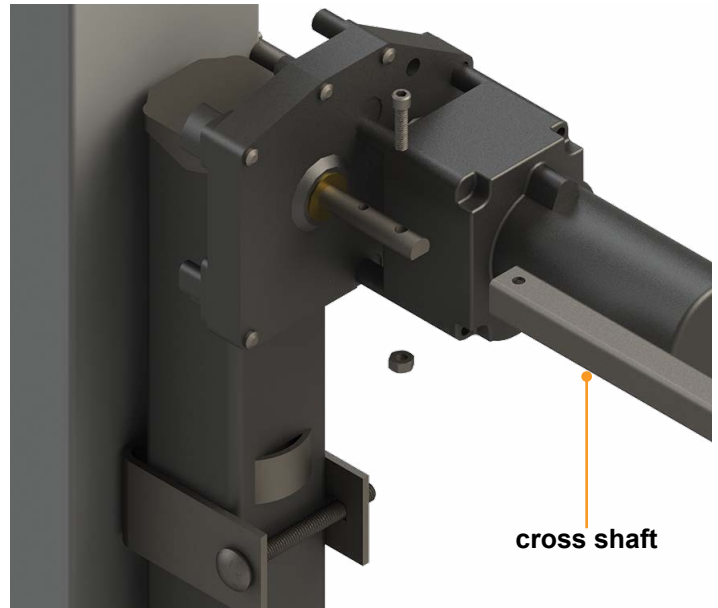

Fig.8
12. Slide the cross shaft onto the follow leg. Extend the shaft to the gear box. Secure cross shaft in place with previously-removed installation hardware (Fig.8).